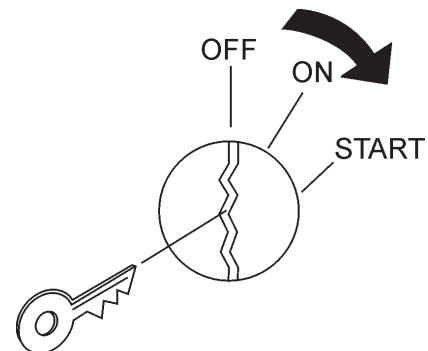

Figure 20. Ignition Switch
7. Insert the ignition key into the ignition (Figure 20), then turn and hold the key in the clockwise position until the engine starts, release key.